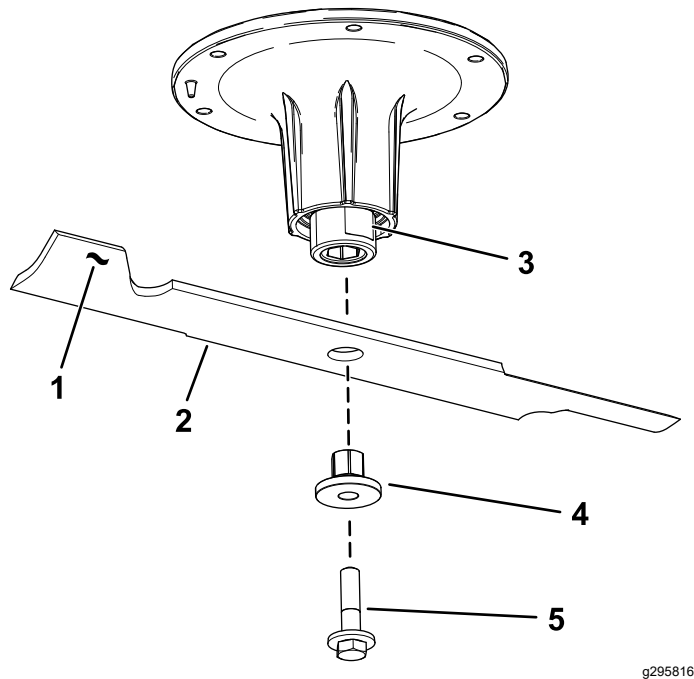

Figure 81
2. Remove the blade bolt, bushing, and blade from the spindle shaft (Figure 81).